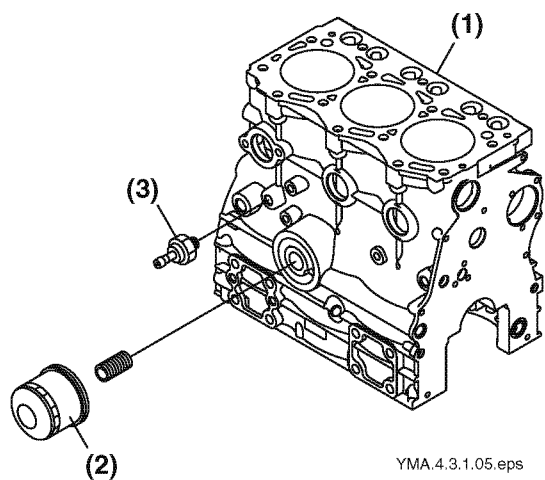

Figure 11-12
The oil pressure switch (**Figure 11-12, (3)**) is located on the right side of the engine (viewed from flywheel) near the oil filter (**Figure 11-12, (2)**).